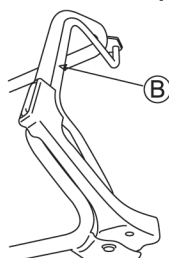

Fig. 17
4. Push Drive clutch lever (B) forward to start mowing. (See Fig. 17)